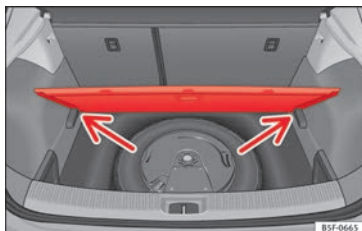

Fig. 180 Luggage compartment: variable floor
- Rest the floor on its housings »» Fig. 180 (arrows).